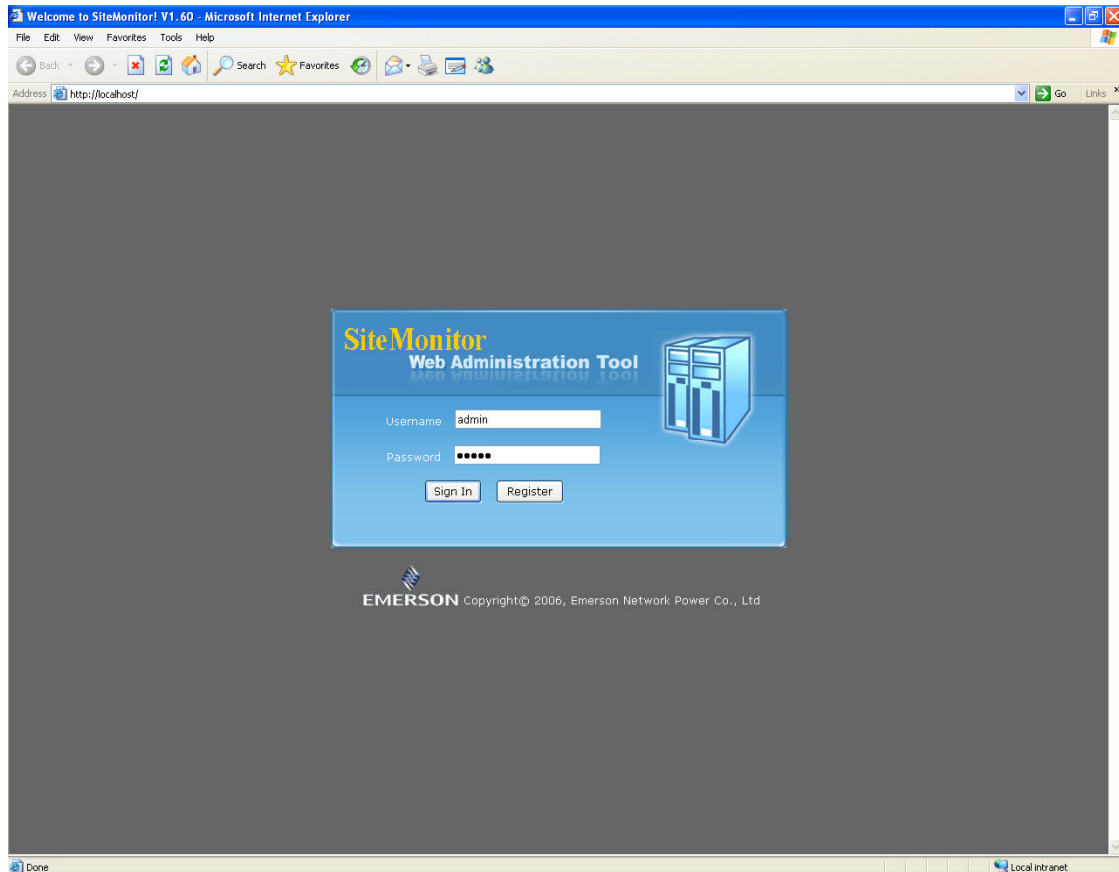

Figure 22 SiteMonitor sign in interface
2. The system will display **SiteMonitor** icon after the installation is finished. Double-click the **SiteMonitor** icon to pop up the interface shown in Figure 22.